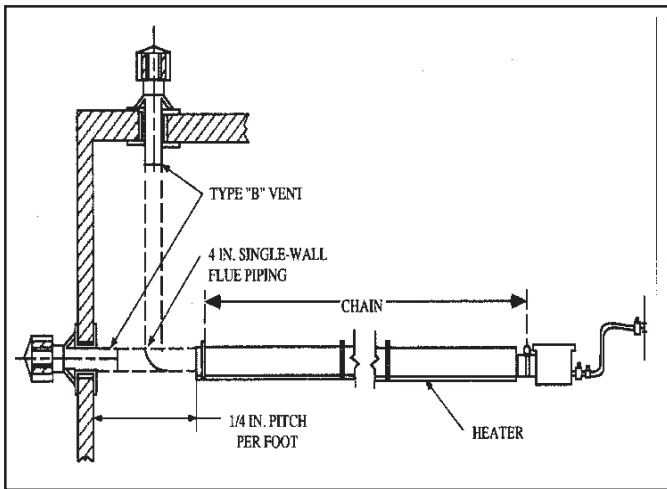

Figure 2-23
- A common flue of 6 in. diameter must be used for double venting of units. One thermostat must control both units. When common venting is used, flue should be connected so that the byproducts of one heater cannot flow into the adjoining flue of the other heater. A dual exhaust assembly is available from Detroit Radiant, Part No. Y or RT (See Figures 2-23 through 2-26).
- Horizontal flues should be pitched down toward outlet, ¼ in. per foot of the vent length, to prevent rain from entering the heater (see Figure 2-23). Do not pitch heater.